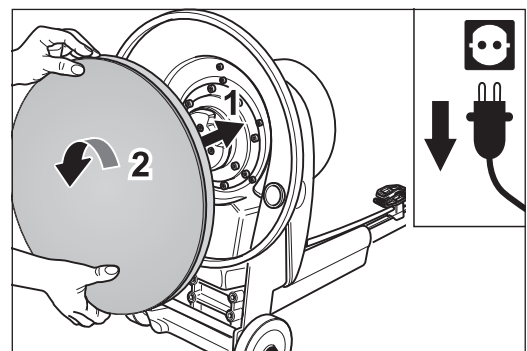

Fig. 15 Push on the sanding plate and turn it anti-clockwise until it reaches the mechanical stop.
- 6 Push the other sanding plate centrally onto the gear mount and turn it anti-clockwise until it reaches the mechanical stop (Fig. 15).